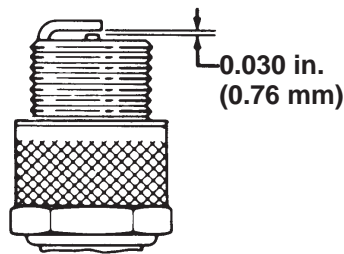

Figure 39
4. Set the air gap between the center and side of the electrodes at 0.030 in. (0.76 mm) (Fig. 39) Install the correctly gapped spark plug w/gasket seal, and tighten the plug to 200 in.-lb. (23 N·m). If a torque wrench is not used, tighten the plug firmly.